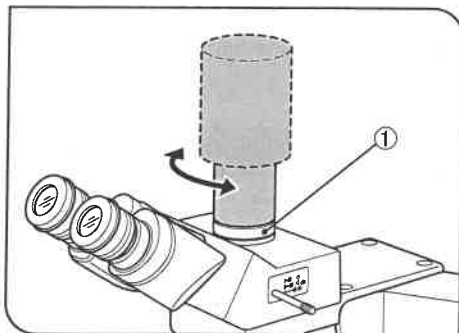

Fig. 5
(Figs. 5 & 6)
Loosen clamping screw ① of the straight tube of trinocular tube, rotate the camera, and tighten screw ① again. (Fig. 5)